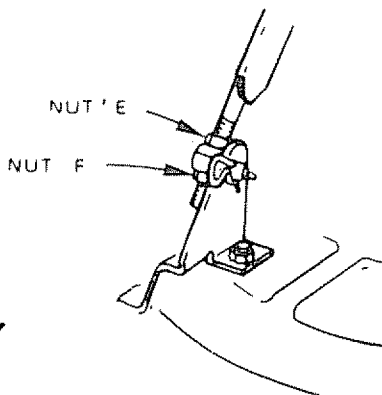

FIGURE 37
- To lower rear of mower, loosen nut "F" on both rear suspension arms an EQUAL NUMBER OF TURNS (Fig. 37).